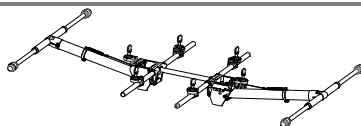

Fig. 1
**Retracted** :Toggle the switch to this position to retract the landing gear (Fig.1)